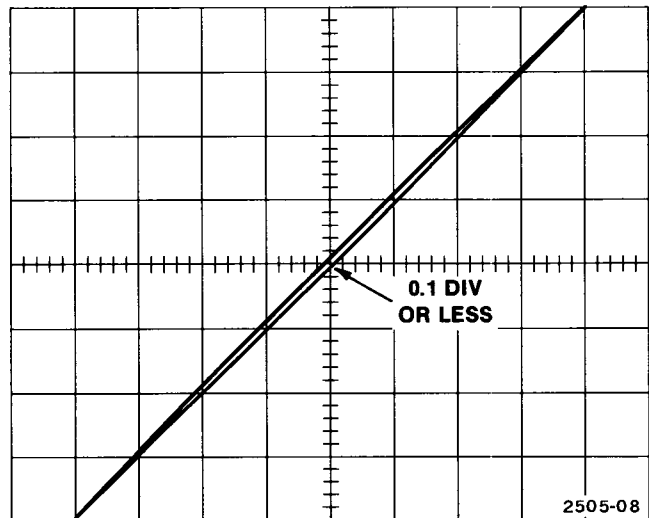

Fig. 4-5. Typical display of horizontal and vertical phase difference.
c. Set the sine-wave generator amplitude and the 603A Position controls for an eight-division diagonal display as shown in Fig. 4-5.
e. CHECK—that the diameter of the displayed ellipse, measured vertically at the center of the graticule, is 0.1 division or less (see Fig. 4-5). If necessary, adjust C168 (vertical HF Comp) and C368 (horizontal HF Comp) slightly to reduce phase shift.